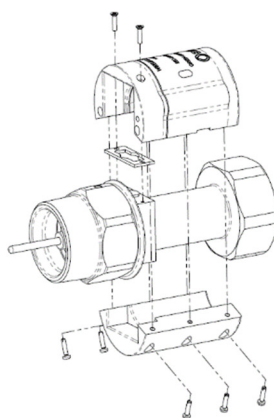

Figure 6 Exploded view of the Wireless Swivel
- Remove 8 screws see, Figure 6, below,